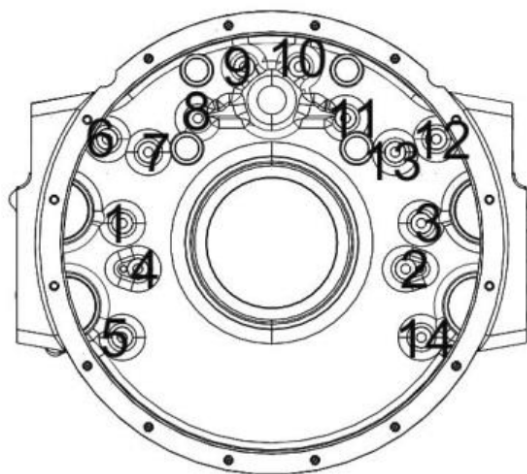

Figure 129.
7. Tighten the bolts in two steps in the following sequence (Figure 129):